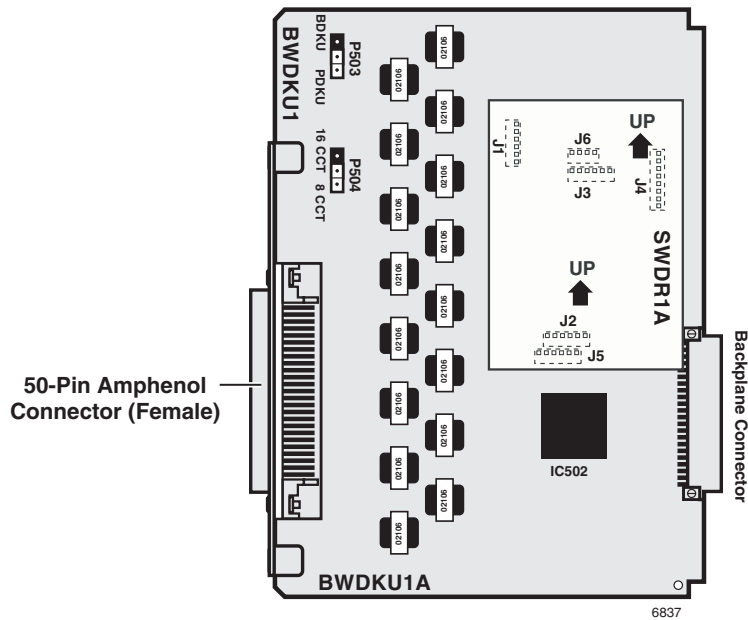

Figure 6-12 BWDKU1A PCB
1. See Table 6-8 and Figure 6-12, then make any jumper adjustments needed for DKT or slot requirements. The BWDKU1A can be installed in any slot; however, if it is installed in expansion slots S\_07~S\_10, you must move the jumper plug to the “8 CCT” position.